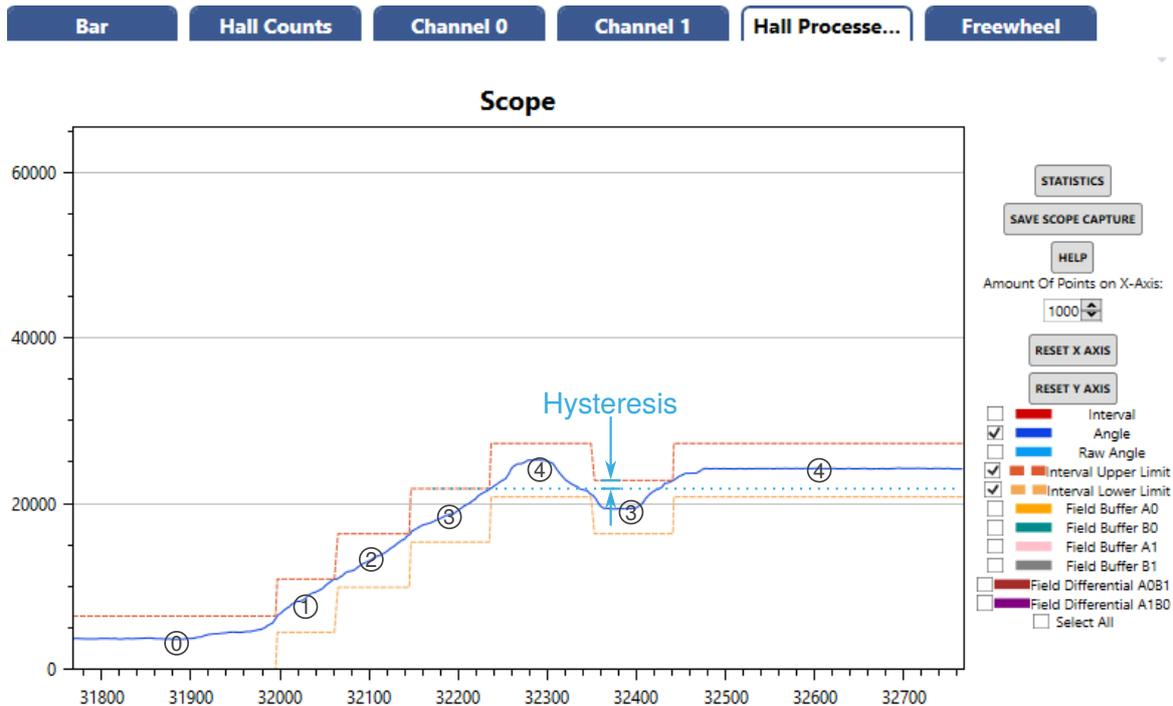

Figure 5.8: Scope View of Hall Angle and Intervals
**Interval Hysteresis** provides a debouncing effect that prevents the interval output from jittering between two intervals when the final angle is near an interval boundary. The effect of hysteresis can be seen in Figure 5.8, where the angle switches from interval 4 to interval 3. As the angle crosses the lower limit of interval 4, the upper limits and lower limits shift down to indicate the edges of interval 3, but the new upper limit for interval 3 is slightly higher than before. The angle can now drift back upwards past the original threshold without triggering a new interval. This means the user has to rotate the magnet deliberately to move back to interval 4.